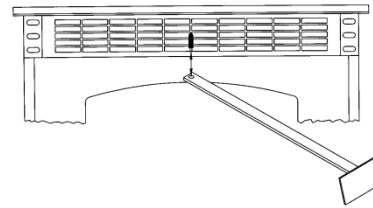

FIGURE 22
- With the door closed clean heat exchanger tubes. (See “**CLEANING**” and Figure 22).
- Clean heat exchanger tubes (see “**CLEANING**” and Figure 22).
- Heat Exchange Tubes** – Your Breckwell stove is designed with a built-in heat exchange tube cleaner. This should be used every two or three days to remove accumulated ash on the tubes, which reduces heat transfer on the P24. Insert the handle end (with hole) of the cleaning tool onto the cleaning rod (refer to figure 22). The cleaner rod is located in the grill above the stove door. Move the cleaner rod back and forth several times to clean the heat exchanger tubes. Be sure to leave tube cleaner at the rear of the stove.